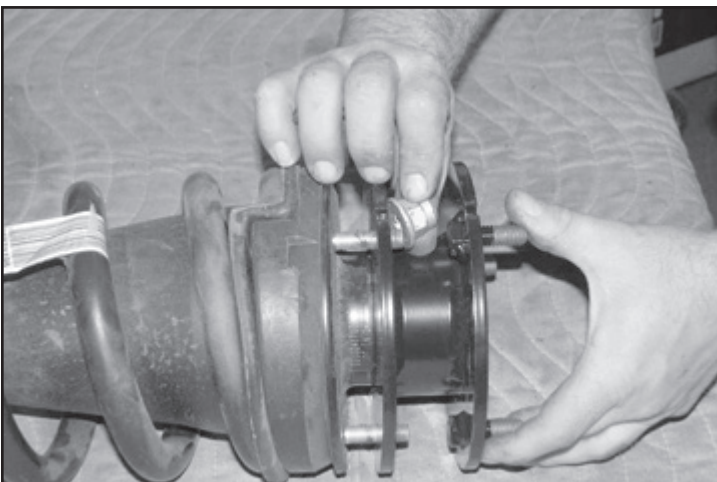

FIGURE 30
30. Install the FT20560BK coil spacer using the factory nuts and torque to 30 ft-lbs. **SEE FIGURE 30**